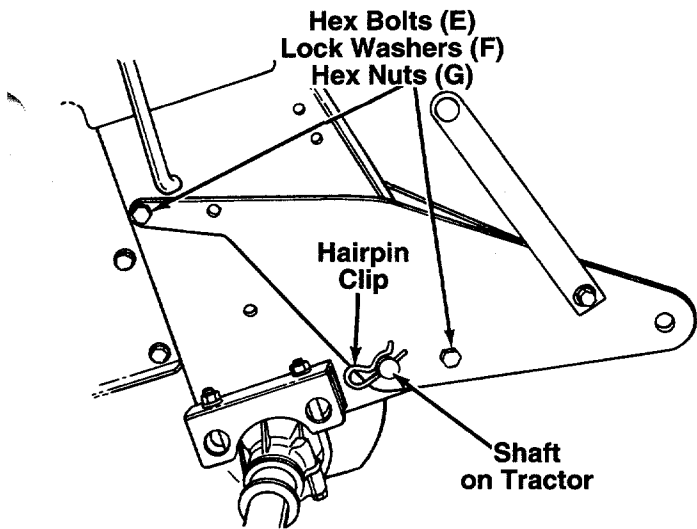
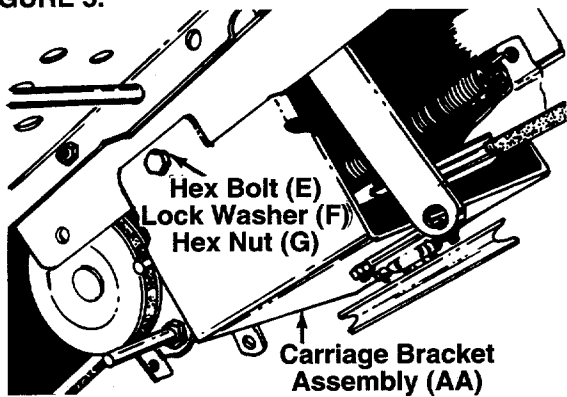

FIGURE 5.
FIGURE 6.
4. Place the support pivot bracket (with idler bracket and support arm attached) in position on the rear left hand side of tractor. See figure 5. Place large hole in pivot bracket over shaft on tractor. Secure with one hairpin clip removed in step 3.
6. Align the holes in the support pivot bracket with the holes in the tractor frame. Secure the support pivot bracket to the tractor frame with hex bolts (E), lock washers (F) and hex nuts (G) as shown in figure 5. ←
9. Secure end of idler bracket support arm assembly on the right side of tractor with one flat washer (D) and hairpin clip (J).
10. Place carriage bracket assembly (AA) in position beneath the running board support rod on the tractor so belt will attach to engine pulley. Secure each side of carriage bracket to frame with hex bolts (E), lock washers (F) and hex nuts (G). ← Tighten securely. See figure 6.